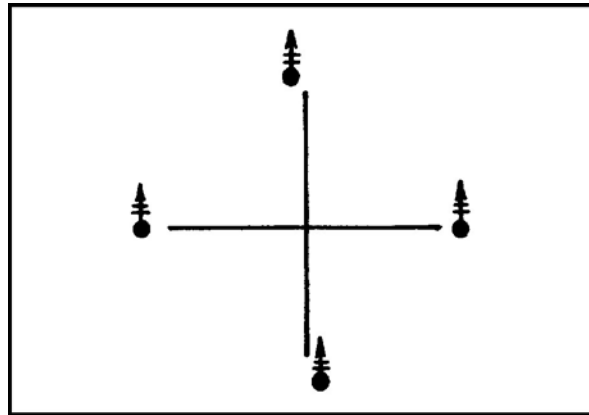

Figure 3. Diamond formation.
- b. The diamond formation (Figure 3), also used with the same mortars, is about 100 meters square. From this formation, mortars can fire well in all directions; it is the formation to use in restrictive terrain and where attached or added security is limited (as in a counterinsurgency).